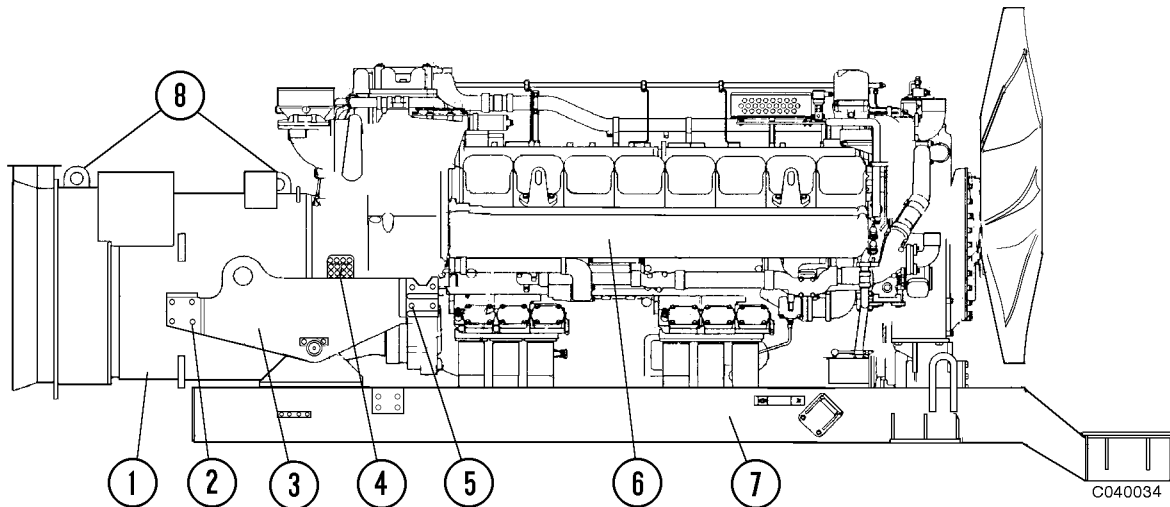

FIGURE 4-1. MTU ENGINE AND ALTERNATOR
A fuel gauge sending unit (9, Figure 4-1) mounted on the side of the tank provides an electrical signal to operate the fuel gauge on the instrument panel.
Low fuel switch (13, Figure 4-1) controls the low fuel level indicator on the overhead warning indicator light panel in the operator cab. The switch is calibrated to turn on the low fuel indicator when the usable fuel remaining in the tank is approximately 25 gallons (95 liters).
The following instructions cover the removal of the main alternator from the MTU engine after the power module has been removed from the truck. (Refer to Figure 4-1.)
1. Attach hoist with two lifting chains to the two alternator lifting eyes (8, Figure 4-1).
- b. Loosen engine/cradle capscrews (5, Figure 4-1).
5. Remove capscrews and washers (10 & 11) securing alternator housing (12) to the intermediate housing (9).
6. Take up slack in hoist and remove capscrews and lockwashers (2, Figure 4-1) securing the alternator to the cradle structures.